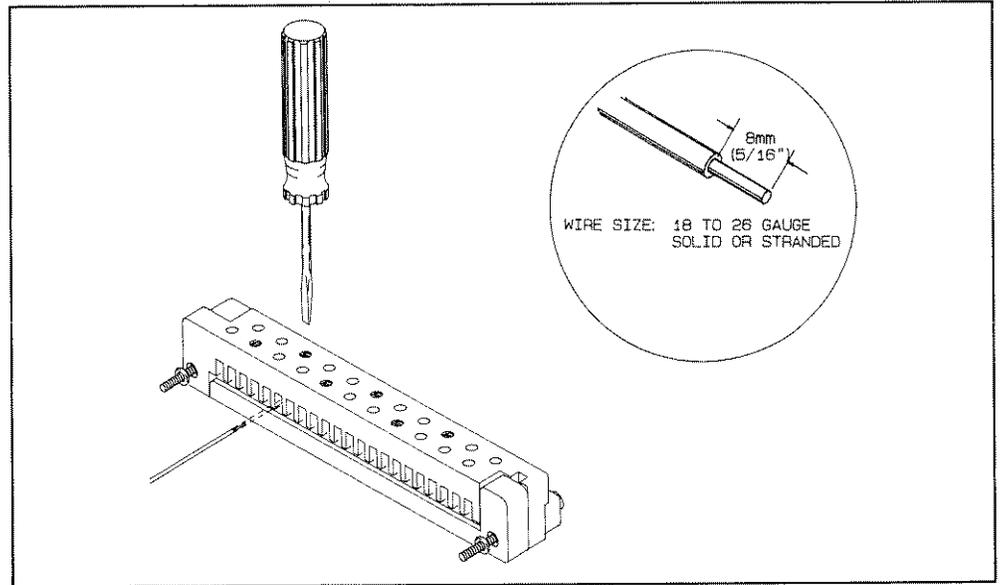

Figure 5-4. Connecting a Wire to the Wiring Block
As shown in Figure 5-4, each wire is connected to the wiring block by (1) loosening the appropriate screw, (2) inserting the wire (with the insulation stripped) into the appropriate slot, and (3) tightening the screw. Refer to the section of this chapter dealing with a specific plug-in card for details concerning the channel connections for your particular wiring block.